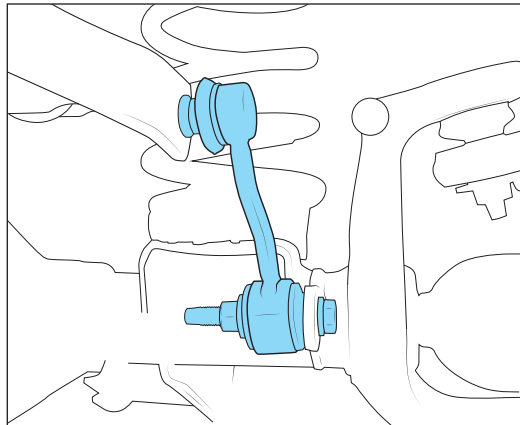

Figure 14
5. Remove both sway bar links and hardware, save hardware. Note orientation, new links will be installed in the same way (Fig 14).